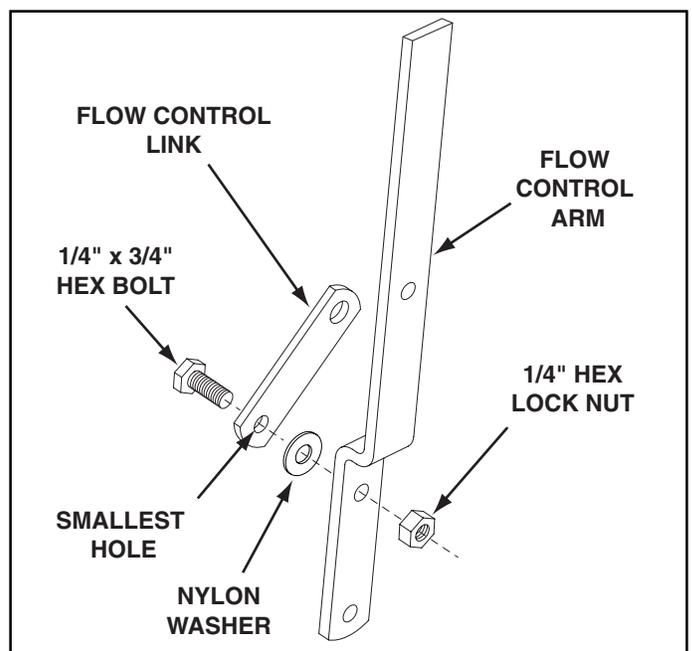

FIGURE 7
15. Assemble the flow control link (end with small hole) to the flow control arm using a 1/4" x 3/4" hex bolt, a nylon washer and a 1/4" hex lock nut. **Tighten** the nut until the flow control link pivots with a slight resistance. See figure 7.